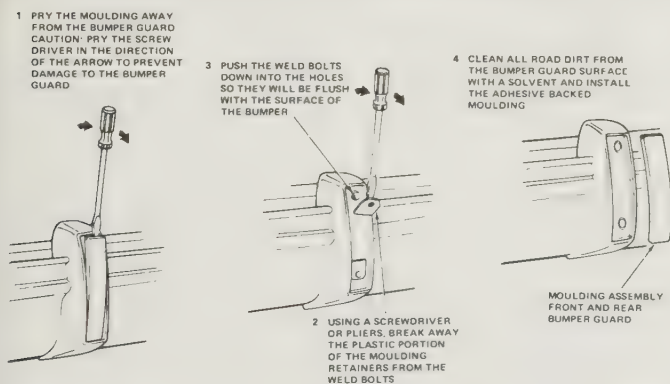

Fig. 12.25. Replacing the bumper guard mouldings (on later models the mouldings are clipped in) (Sec. 39)
- 4 The bumper guard mouldings can be removed by carefully easing them out of the guards using a screwdriver (see Fig. 12.25).